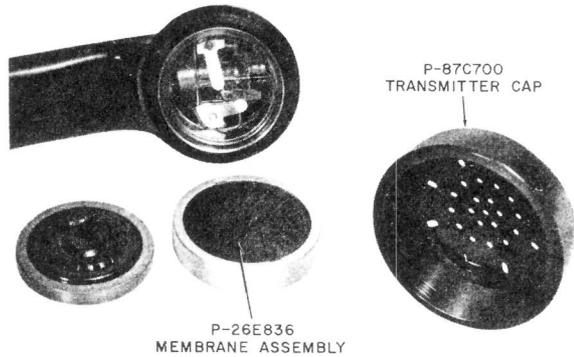

Fig. 7—Moistureproof Transmitter Assembly
2.04 A P-26E836 moistureproof membrane assembly, which fits over the transmitter and is a part of the G3AF, G3AG, G3AK, G3S, and G3T handsets, may be installed in any G-series handset. When this cover is used, it is necessary to install a special P-87C700 transmitter cap (Fig. 7).
2.16 G3AD, AE, AG, FR, M, P, R, S, and T handsets are intended for use on coin collectors. Some coin collectors are equipped with armored handset cords. The G3AF, G3AG, G3S, and G3T handsets are also equipped with a waterproof transmitter cover for use on outdoor coin collectors (Fig. 7).